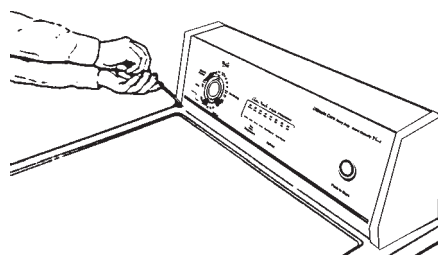

Fig. 4-7
1. Remove the two screws at the base of the console. (Fig.4-7)